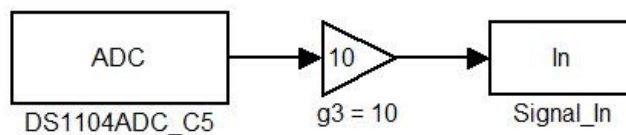
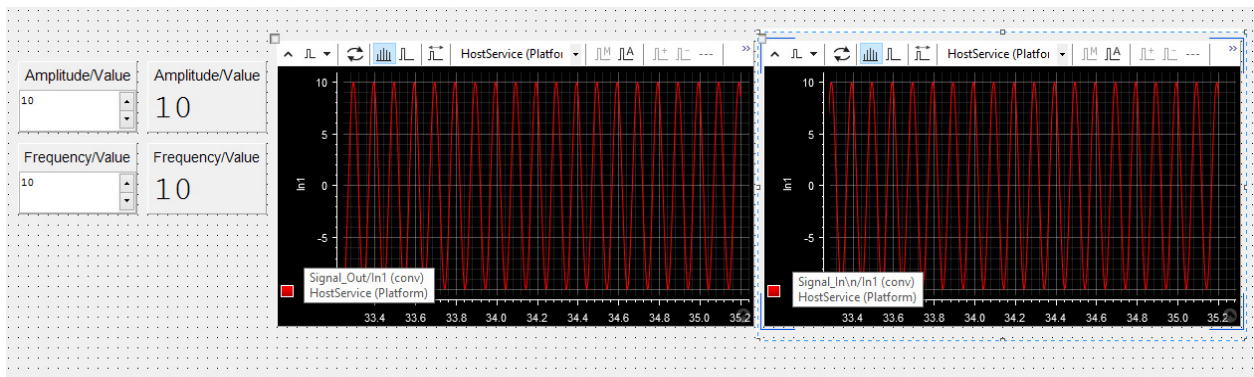

Figure 17: Digital to Analog Channel (ADCH) block
Figure 18: Layout file showing sine wave applied to DACH1 and read back through ADCH5
- b. A voltage of 10V on the A/D channel is scaled to the signal with value equal to 1. Therefore, add another *gain* and *To Workspace* (same as for *Signal_Out* in section II.i.f) blocks to the model and change the gain value to (10) and *To Workspace* to *Signal_In*. This will convert the normalized value of the output to its actual value. Connect the blocks as shown in Fig. 17.
After adding the blocks of Fig. 17 to the Simulink model, build the model again as described in section *ii*. This will update the .sdf file and add the new blocks' names. Open the .sdf file into dSPACE, as done in section *iii* and it will replace the existing variable file. Draw another plotter array window and drag and drop the variable name of the *To Workspace* block, called *Signal_In* in this tutorial, to the plotter array. Use a BNC cable to connect the DACH1 to ADCH5. If you would like to see the signal simultaneously on the user-interface and oscilloscope, use a BNC splitter. Run the program by pressing the start button. The output signal to DACH1 and input signal to ADCH5 are shown in Fig. 18.